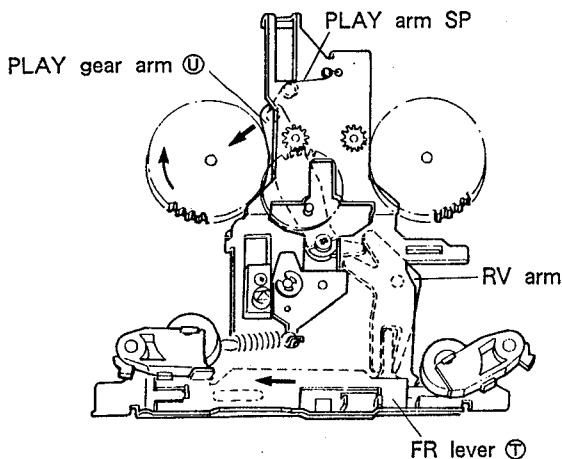

Fig. 8-9
(Refer to Fig. 8-9.)
- 2) With cam gear ㉓ continuing to rotate, RVS pin ㉖ moves while touching the inside wall of cam ㉗ forming at the back side of cam gear ㉓. And RV lever (A) ㉒ is pushed in the arrow direction by cam ㉗.
- 3) FR lever ㉑ linked with RV lever (A) ㉒ moves in the direction opposite to that indicated in Fig. 8-9.
- 7) Continue with (10), (11) in the section of FWD PLAY→STOP.